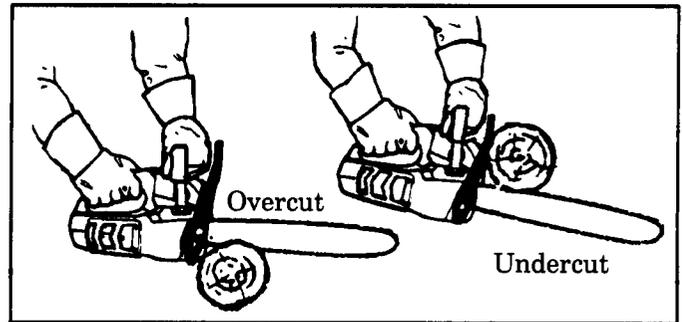

Figure 22
2. TYPES OF CUTTING USED (Figure 22) :